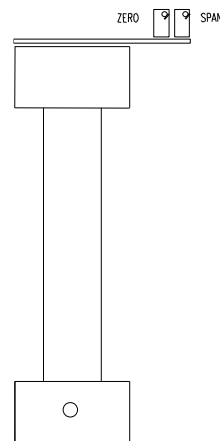

Fig. 4.1 Location of the **ZERO** and **SPAN** adjustment potentiometers
1. Any adjustments are made using the ZERO and SPAN adjust potentiometers on the detector printed board (the printed board on the sensor head, see Figure 4.1).